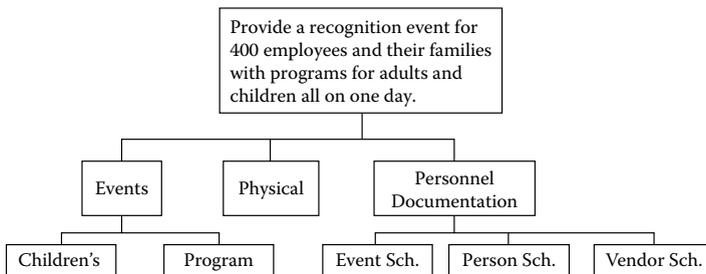

Figure 20.13 Presentation of your PBS to your client.
- Step 1: In building the initial PBS during Step 1, you will begin to organize your project's scope — its deliverables. You will begin by developing the initial product breakdown structure with Post-Its®. You end with a presentation of your PBS to your client (Figure 20.13).